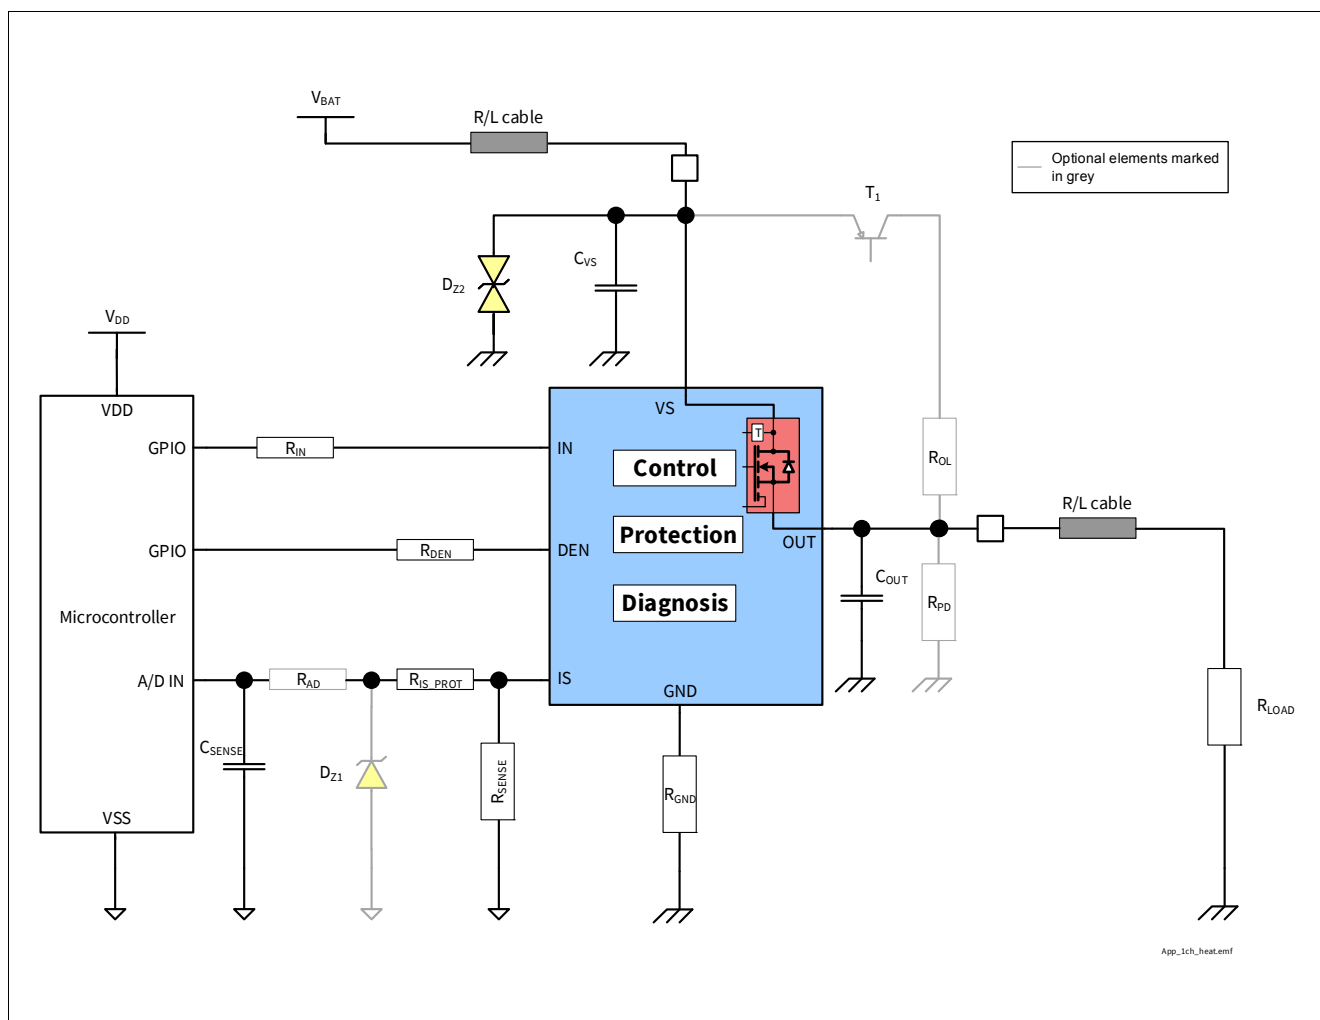

Figure 37 BTS7006-1EPP Application Diagram
1.01 , 2018-06-14	Page numbering corrected Figure 1, Figure 29, Figure 37 updated